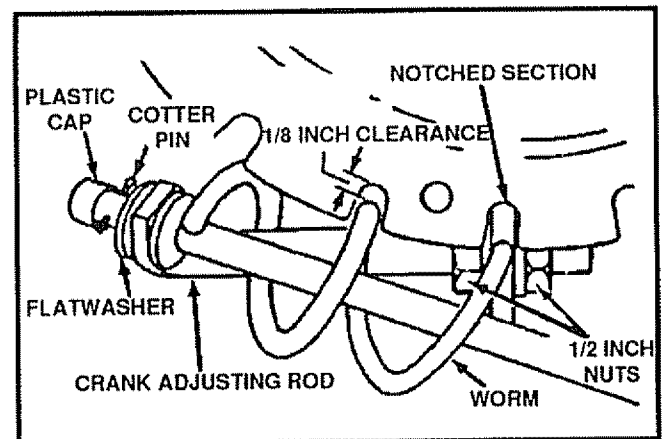

FIG. 5
- Remove the plastic bag from chute crank assembly. Remove the plastic cap, cotter pin and washer from the wormed end of the auger assembly (see Fig. 5).
- Rotate the notched section of the discharge chute toward the crank-adjusting rod (See Fig. 5).
- Install the wormed end of the crank through the hole in the adjusting rod and secure the end with the flat washer and cotter pin, as shown in Fig. 5.
- Rotate the chute crank fully clockwise and fully counter-clockwise. The discharge chute should rotate fully to the outer diameter of the worm and should clear approximately 1/8" (See Fig. 5). If the chute crank needs to be adjusted, go to the Service and Adjustments section on page 18. Screws securing chute clips at the base of the chute should be slightly loose for easy rotation.